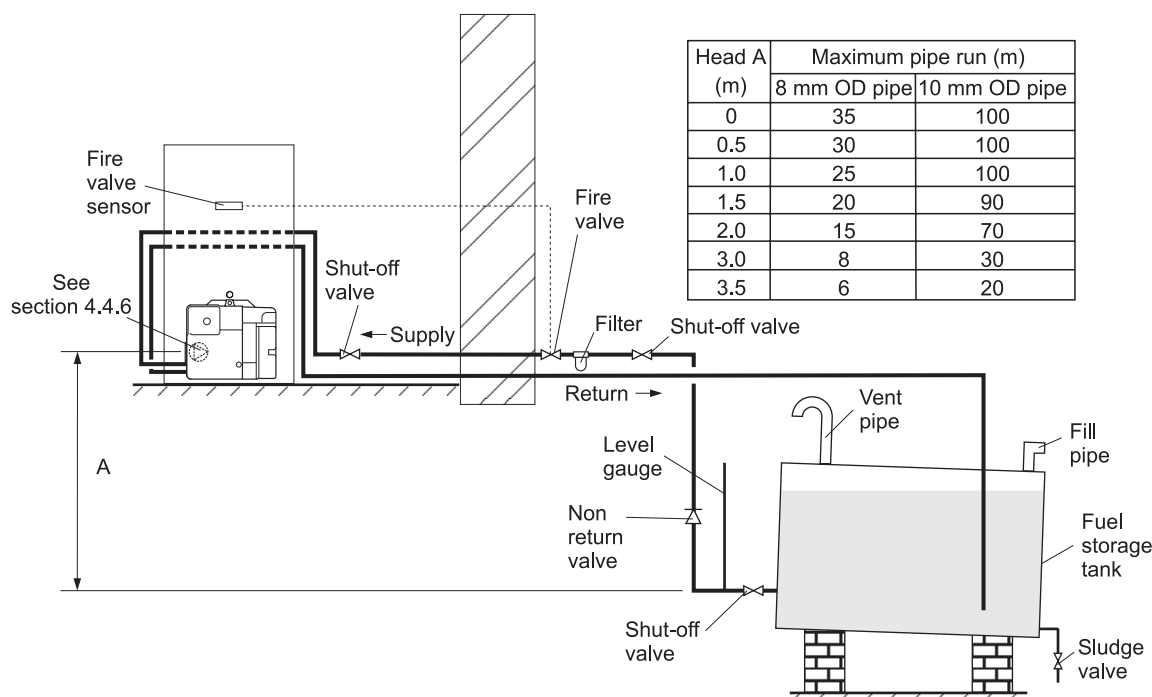

Fig. 4 - Two pipe system
4.4.4 Two pipe system - (See Fig. 4)
- 1 When the storage tank outlet is below the burner, the two pipe system should be used. The pipe runs should be as shown in Fig. 4. The return pipe should be at the same level in the tank as the supply pipe, both being 75 to 100 mm above the base of the tank. The pipe ends should be a sufficient distance apart so as to prevent any sediment disturbed by the return entering the supply pipe.